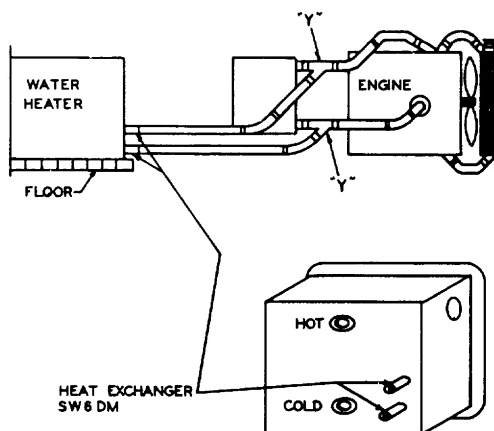

Figure 11
A. Place copper "Y"s in heater as shown in Figure 11.